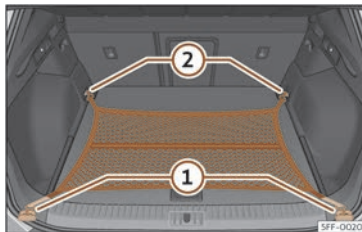

Fig. 120 In the luggage compartment: net bag hooked up at floor level.
- Secure the net hooks to the fastening rings (1) and (2) >>> Fig. 120 >>> . The bag zip should be facing upwards.